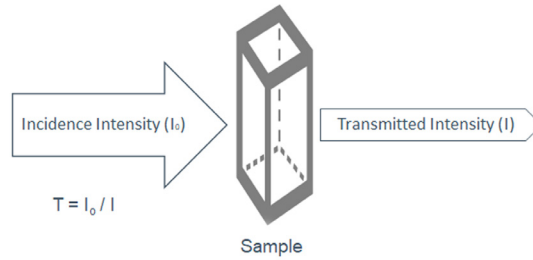

Figure 8. Transmittance Equation and Diagram
Transmittance (T) is the calculation of the difference of intensity ( $I_0$ ) energy from the incident beam to the resulting beam (I) (Figure 8). Transmittance is usually expressed in units of percent.